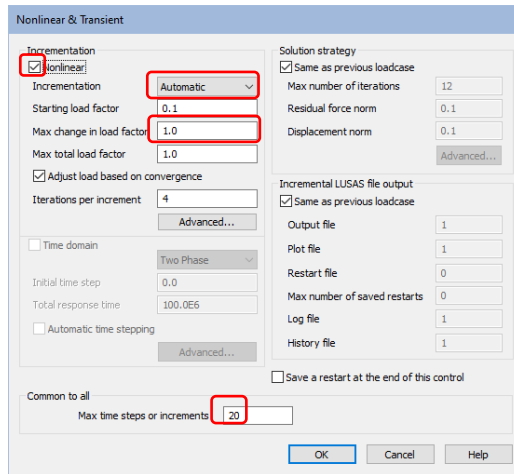

Figure 47: Nonlinear parameter settings
- In the Analyses  treeview, right-click on **1st excavation** and select **Controls > Nonlinear and transient....** On the dialog ensure that the tickbox **Nonlinear** is checked and select **Automatic** from the **Incrementation** drop-down list. Set the **Max change in load factor** to **1.0** and finally the **Max time steps or increments** to **20** (figure 47).
- In the Analyses  treeview, right-click **Install upper anchor** and select **Controls > Nonlinear and transient...** On the dialog ensure that the tickbox **Nonlinear** is checked and select **Automatic** from the **Incrementation** drop-down list. Set the **Max change in load factor** to **1.0** and finally the **Max time steps or increments** to **20** (figure 47).
- In the Analyses treeview, right-click on **1st de-watering** and select **Controls > Nonlinear and transient...** On the dialog ensure that the tickbox **Nonlinear** is checked and select **Automatic** from the **Incrementation** drop-down list. Set the **Max change in load factor** to **1.0** and finally the **Max time steps or increments** to **20** (figure 47).
- In the Analyses  treeview, right-click on the **2nd Excavation** and select **Controls > Nonlinear and Transient**. Check the **Nonlinear** tickbox. Set **Incrementation** to **Automatic**, **Max change in load factor** to **1.0** and **Max time steps or increments** to **20** and click **OK** (figure 47).
list. Set the **Max change in load factor** to **1.0** and finally the **Max time steps or increments** to **20** (figure 47).
- In the Analyses treeview, right-click on **2nd de-watering** and select **Controls > Nonlinear and transient....** On the dialog ensure that the tickbox **Nonlinear** is checked and select **Automatic** from the **Incrementation** drop-down list. Set the **Max change in load factor** to **1.0** and finally the **Max time steps or increments** to **20** (figure 47).
the **Max change in load factor** to **1.0** and finally the **Max time steps or increments** to **20** (figure 47).